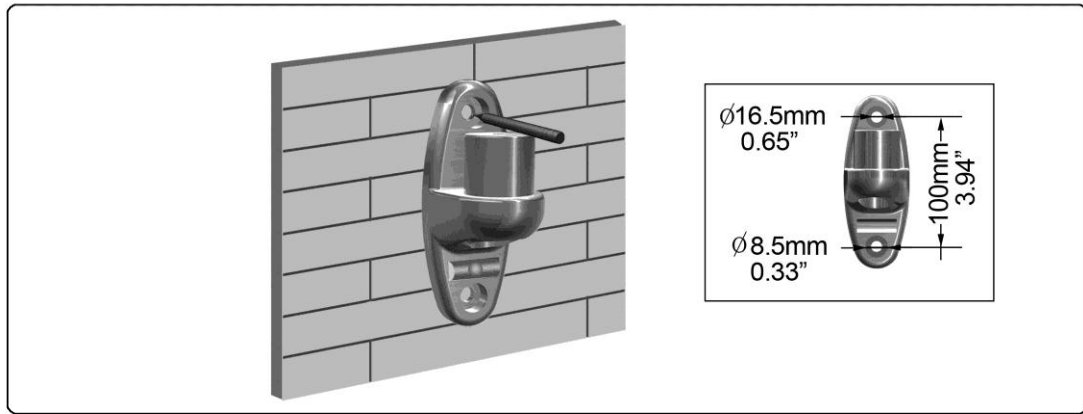

Figure 1-6
2. Place the Wall Plate **(2)** on the wall. Mark the mounting location (**See Figure 1-6**).